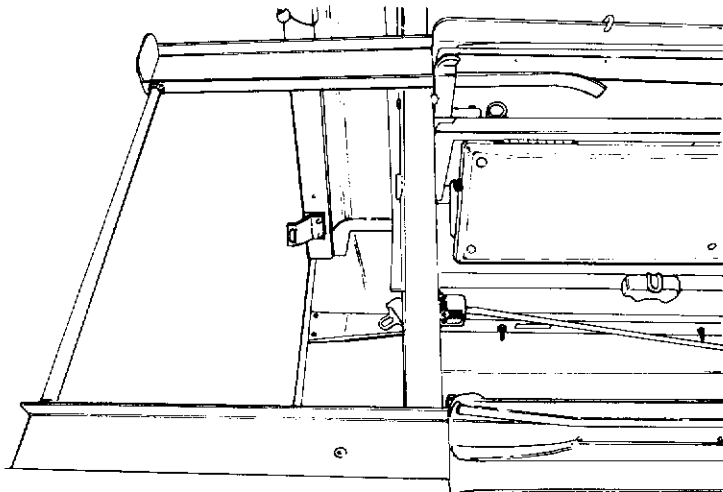

Figure 4-13 Loading assist rails
**462.** Extend the loading assist rails out and downward from the ends (rear) of the litter rails (see Fig. 4-13), then lift the litter until the front ferrules of the litter are positioned on the loading assist rails. Push and guide the litter onto the litter rails and ensure that the front ferrules are locked in the transport position, then lift and push the loading assist rail back under the litter rails. After the litter is loaded push the litter and rails, as a unit, toward the module sidewalls to the latching or transport position.